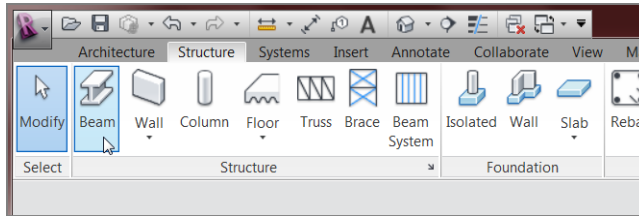

FIGURE 8.34: The Beam button on the Structure panel of the Structure tab
1. On the Structure panel of the Structure tab, click the Beam button, as shown in Figure 8.34.